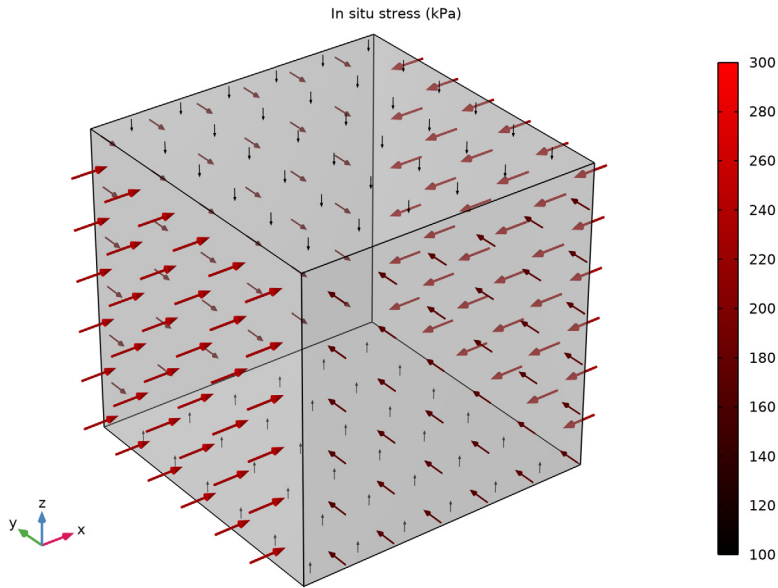

Figure 2: In situ stress applied on the surface of the block.
- The in situ stress is prescribed via the External Stress node, it is 300 kPa, 200 kPa, and 100 kPa in the x , y , and z directions, respectively. The in situ stress components are shown in Figure 2.